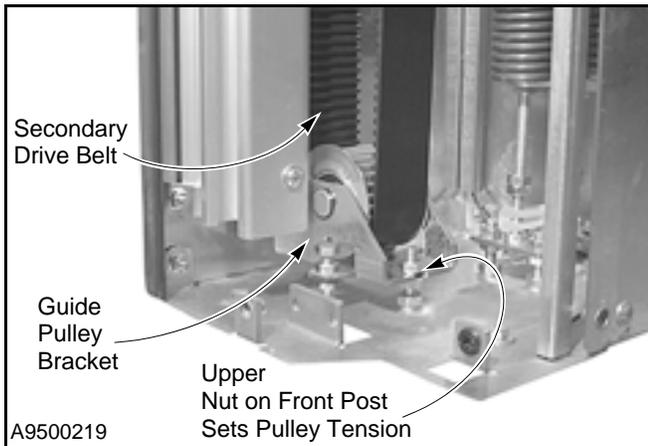

Figure 34
3. Belt tension should just be snug. It is adjusted by repositioning the guide pulley bracket on the front mounting post. Moving the pulley closer to the base plate will increase belt tension. Moving the pulley away from the base plate will decrease belt tension. (See Figure 34.)